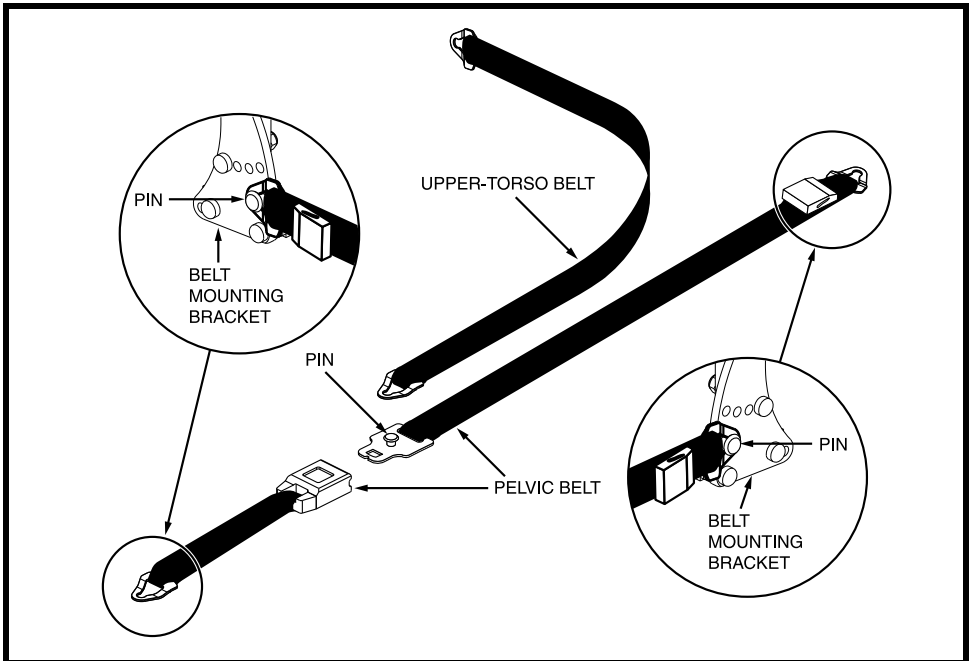

Figure 10. Power Chair-anchored Belt Restraint
- If your power chair is equipped with a crash-tested pelvic belt that is anchored to the seat frame, complete the restraint system by attaching the lower end of the WTORS upper-torso belt to the pelvic belt by referring to the WTORS manufacturer’s instruction. Crash-tested power chair-anchored pelvic belts will be labeled to indicate compliance to the ANSI/RESNA WC/Vol 4, Section 19/ISO 7176-19 standards. See **figure 10**.